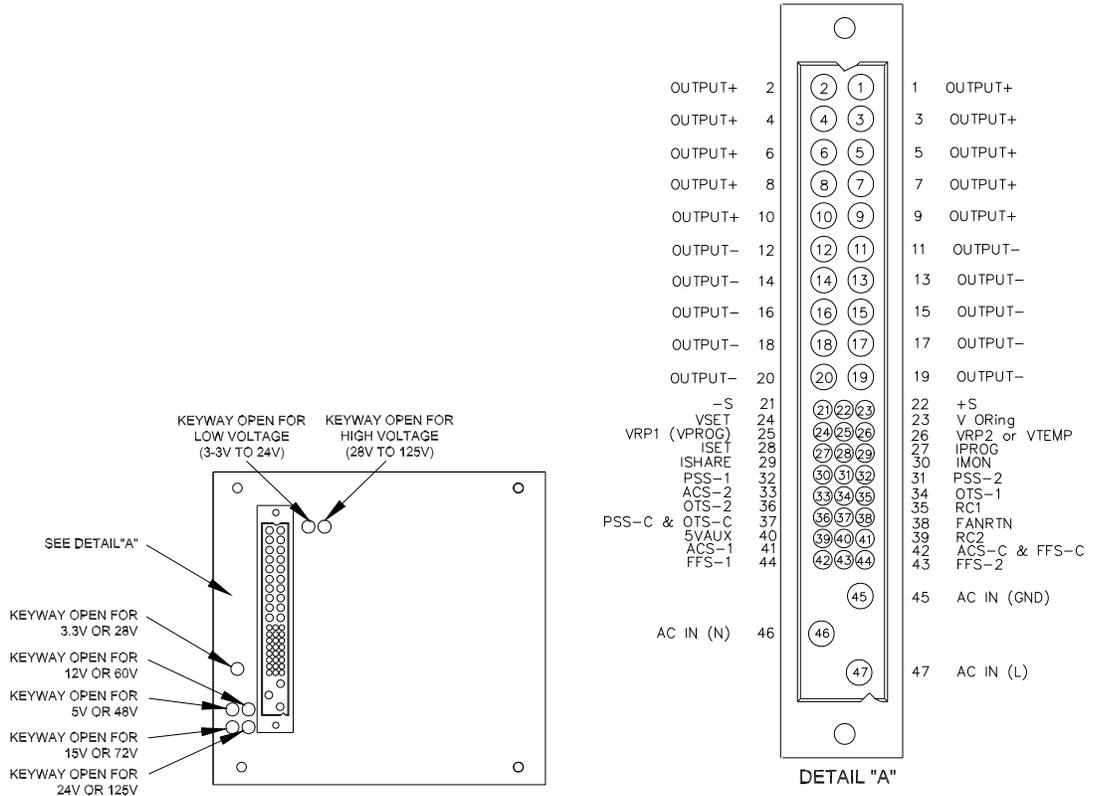

FIGURE 2-3. HSP-A SERIES REAR PANEL CONNECTIONS
c) **Rear Panel:** Refer to Figure 2-3 and Table 2-2.
The I/O Signal portion of the connector, located on the rear panel of the HSP-A power supply (see Figure 2-3), provides access for all programming inputs and status signal outputs. These signals are routed through the rack adapter and are accessible at the corresponding rack adapter rear panel I/O connector. Refer to the RA 90 Series Rack Adapter manual for instructions regarding the use of these signals.
When used with Kepco plug-in rack adapters (RA 60 and similar), HSP-A power supplies can be configured for extraction from and insertion to an active system, or "hot-swap". Hot-swapping requires the use of series blocking diodes for each output (see RA 90 Series Operator Manual). The HSP-A incorporates a mechanical keying system to be used in conjunction with the plug-in rack adapters to prevent installation of any but the correct model HSP-A in a given position. The keying mechanism is comprised of (7) holes, each corresponding to an HSP-A model; all holes are plugged except for the "keyway," thus providing the keying function in conjunction with a pin installed in each rack adapter position. All HSP-A power supplies are keyed by voltage at the factory. ***It is essential that the user: 1) not remove or alter the keyway plugs, and 2) replace any plugs which are inadvertently removed in accordance with the view shown in Figure 2-3.*** To change module keying, see instructions accompanying the RA 90 series plug-in rack adapters.